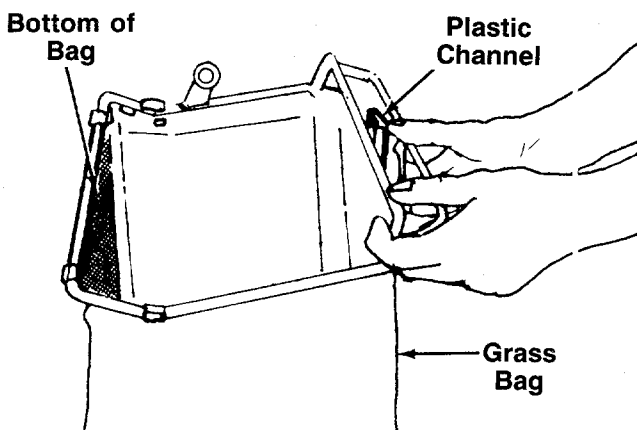

FIGURE 12.
4. Secure bag to frame by slipping plastic channels ← on bag over frame. See figure 12.